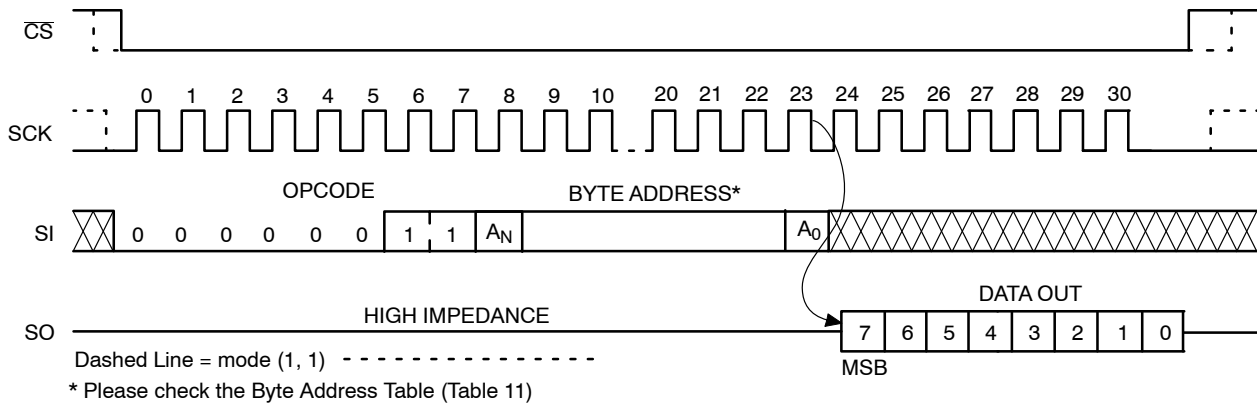

Figure 9. READ Timing
After receiving the last address bit, the NV25128 will respond by shifting out data on the SO pin (as shown in Figure 9). Sequentially stored data can be read out by simply continuing to run the clock. The internal address pointer is automatically incremented to the next higher address as data is shifted out. After reaching the highest memory address, the address counter “rolls over” to the lowest memory address, and the read cycle can be continued indefinitely. The read operation is terminated by taking CS high.
Reading the additional 64-byte Identification Page (IP) is achieved using the same Read command sequence as used for Read from main memory array (Figure 9). **The IPL bit from the Status Register must be set (IPL = 1) before attempting to read from the IP.** The [A5:A0] are the address significant bits that point to the data byte shifted out on the